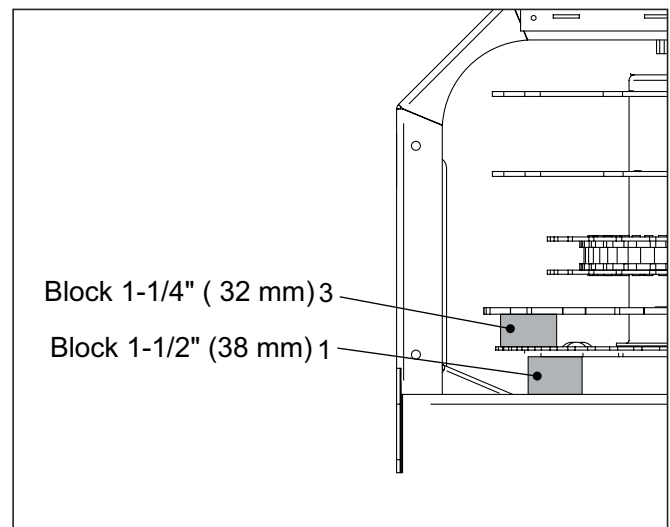

Figure 54 Drum adjustment
1. Position the 1 1/2" (38 mm) blocks (items 1, figure 54) between the frame and the cutting disk, aligned with the knife sections (item 2). Position two blocks on the square cross beam and one on the frame's main beam.
2. Position a 1 1/4" (32 mm) block (item 3 in figure 54) between the disk and the lower drum fingers, aligned with the other blocks. The two drums should now be parallel.